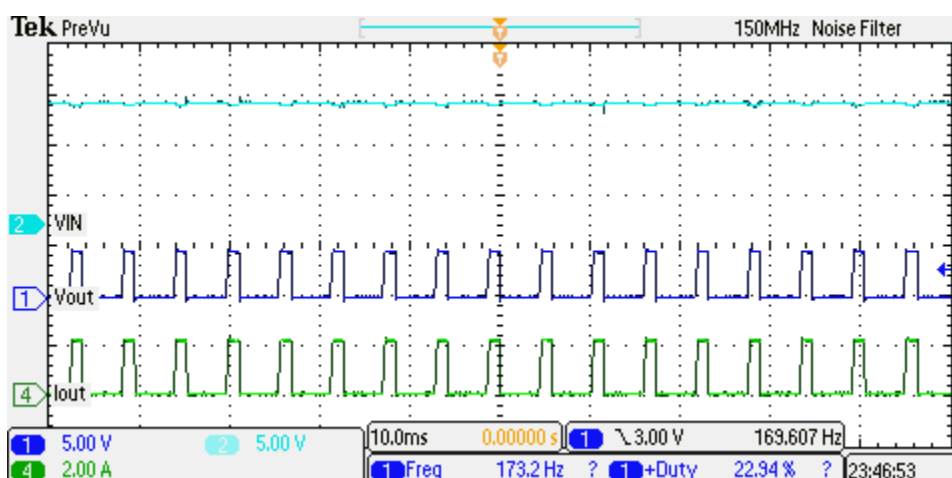

Figure 4. J7 = "ILIM-LO" Current Limit (2.1 A) Test Auto-Retry (CH2)
- Set the output load at $1.0 \pm 0.5 \Omega$ on CH2 and then enable the load. Turn on the VIN2 power supply, verify that input/output current is limited as per the setting in Table 9 and the device is in auto-retry mode, as shown in Figure 4. The level of the current pulse should match with the load current limit (based on the respective jumper setting) as per Table 9.